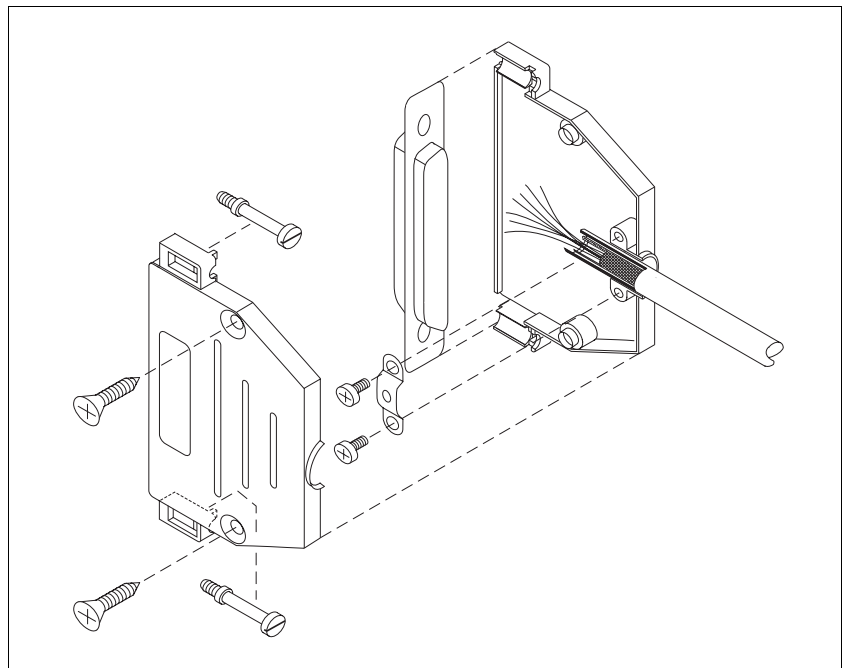

Fig. 2-7 Signal connector assembly – device end
3. Insert two threaded bolts (fig. 2-7) into the connector shell.